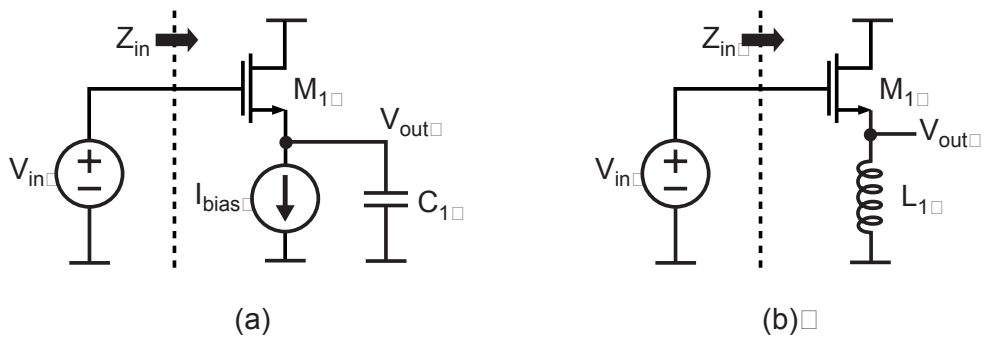

Figure 2: Source follower with a (a) capacitive load, (b) inductive load.
2. The following is based on Problem 7 in Chapter 8 of T.H. Lee's first edition book. In general, high-speed followers, as shown in Figure 2, have a tendency to ring or even oscillate when driving certain loads. Your task is to identify the conditions that may cause this problem and to propose a solution. For derivations, ignore C_{gd} , r_o , and backgate parasitics of M_1 .